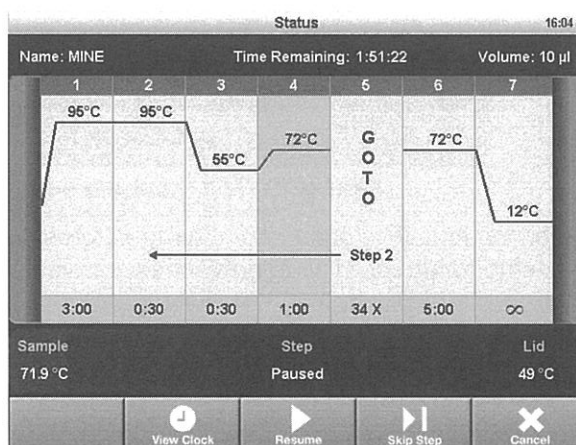

Figure 19. The running protocol is paused at step 4.
2. To resume the protocol, touch **Resume** (Figure 19).